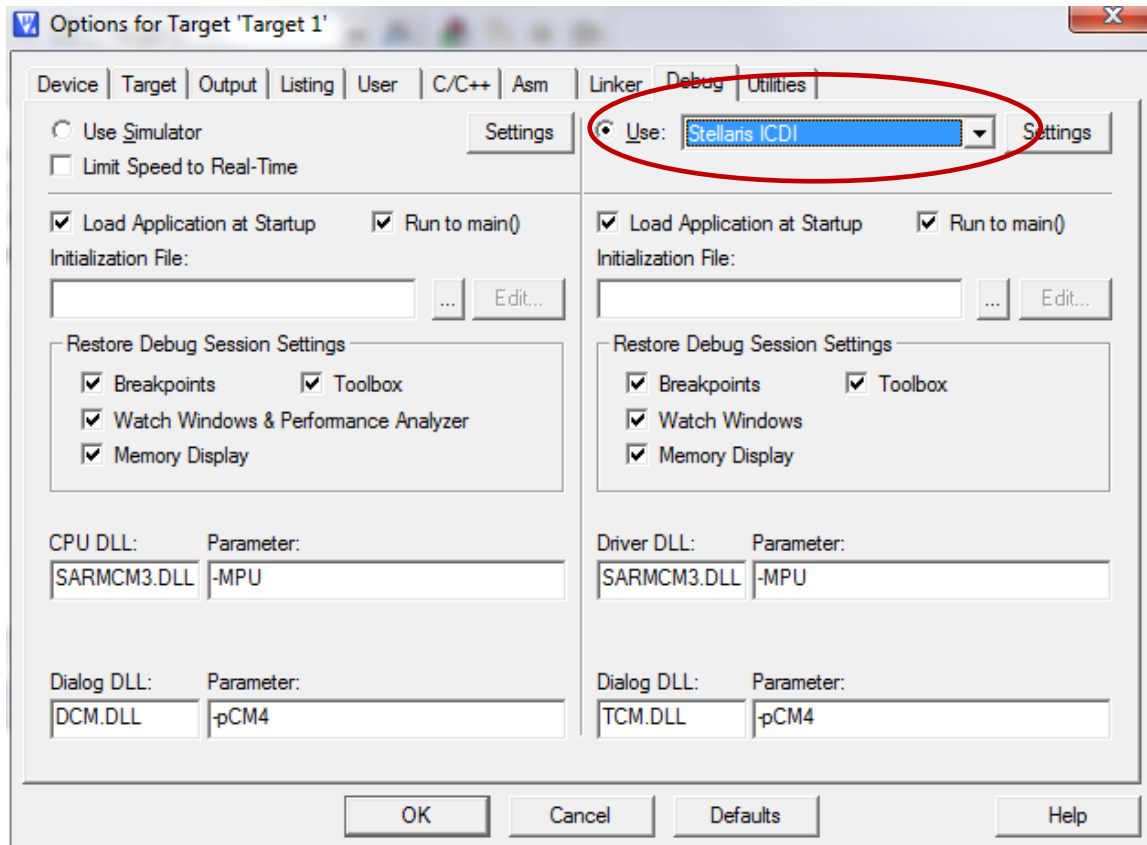

Figure 28
13. **Configure Debug Tab.** The default configuration for a new project is to use the simulator, which is not going to allow you to debug real hardware. Choose the Use radio button on the right side with the ULINK Cortex™ Debugger next to it (this selection is the default in the drop-down box). Choose the Stellaris ICDI option from the drop-down box (see Figure 28).